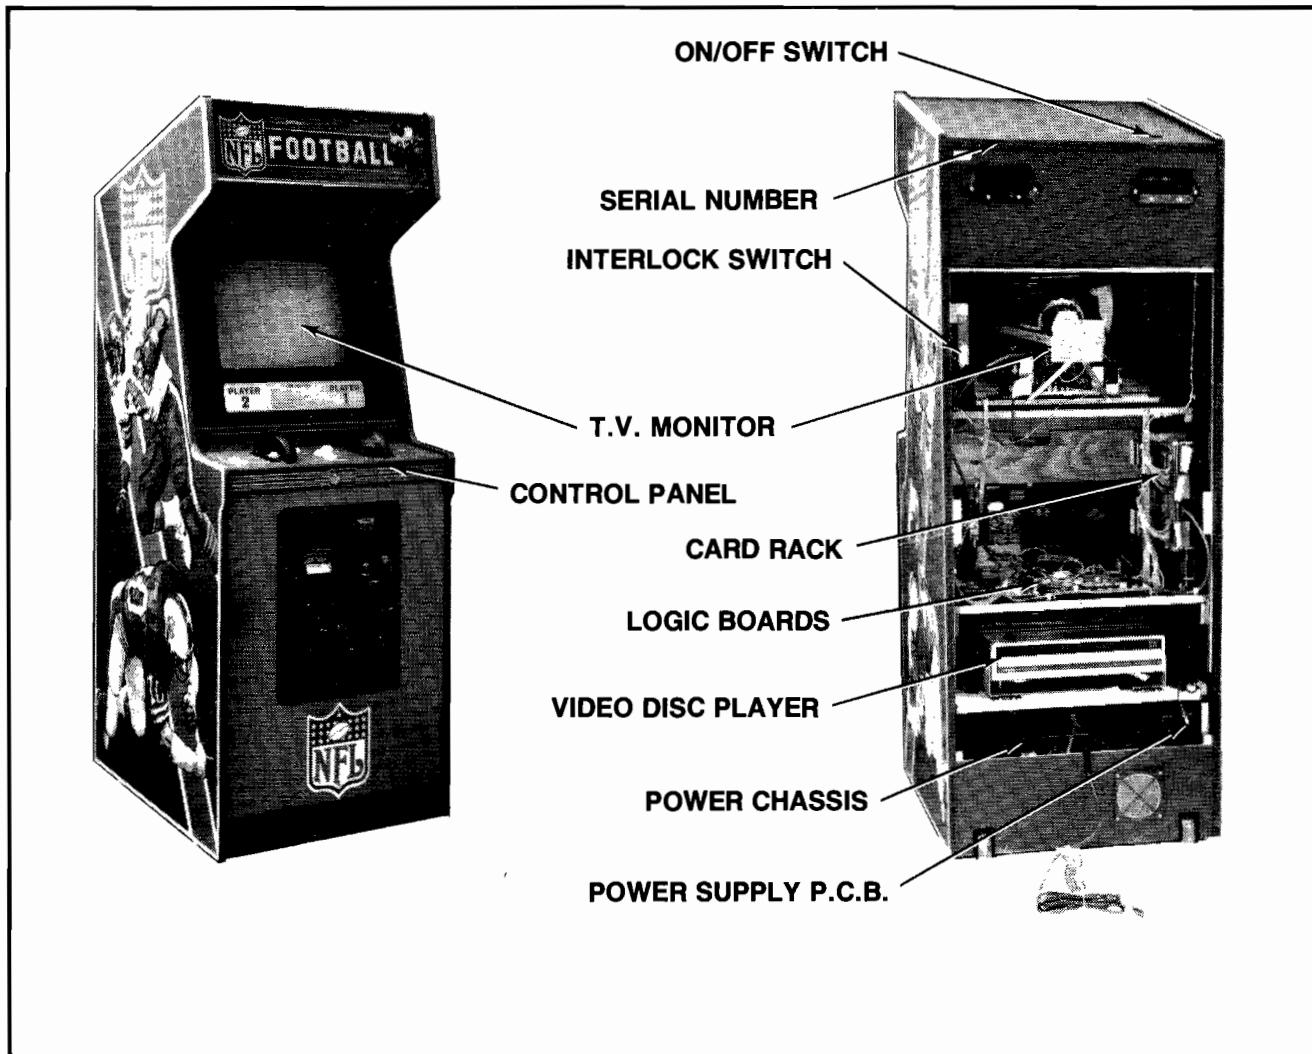

Figure 1-2 Location of Serial No., Interlock Switch, & Major Sub-Assemblies
5. Open the cabinet and inspect the inside of the game for any signs of damage. See Figure 1-2.
- Make sure all printed circuit boards (P.C.B.'s) are firmly seated in their connectors. See Figure 1-2. These connectors are also keyed. The P.C.B.'s will only go in to them one way without being damaged.
- Note the location of the games serial number. See Figure 1-2.
- Check all major subassemblies to be sure they are mounted securely. These are called out in Figure 1-2.
3. Interlock and power ON/OFF switches. See Figure 1-2.
The game ON/OFF switch is located as shown in Figure 1-2. Turn the game on and allow it to warm up a few minutes.